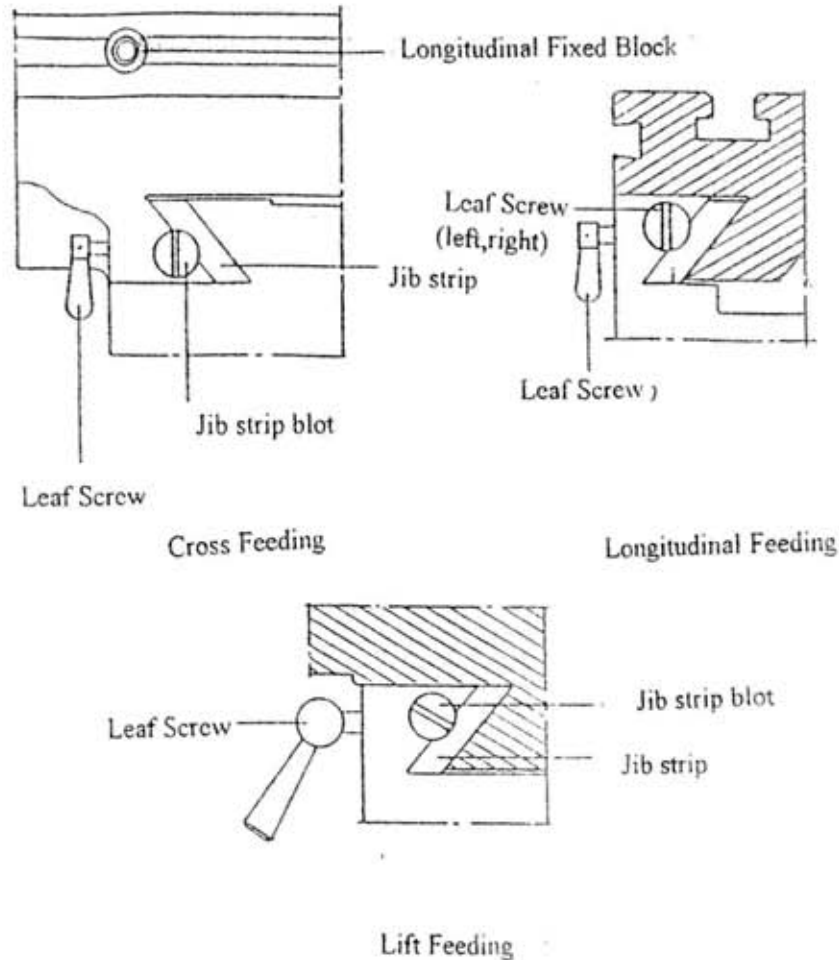

Figure5
There is a long plug iron between the table and middle carriage. There is a adjustable nut at its right side. When adjust the plug iron's degree of tightness, one hand adjusts the nut, the other hand swings the table. till you fell there is light drag. (see figure 5)
④ The locking of table and lift table (see figure 5)